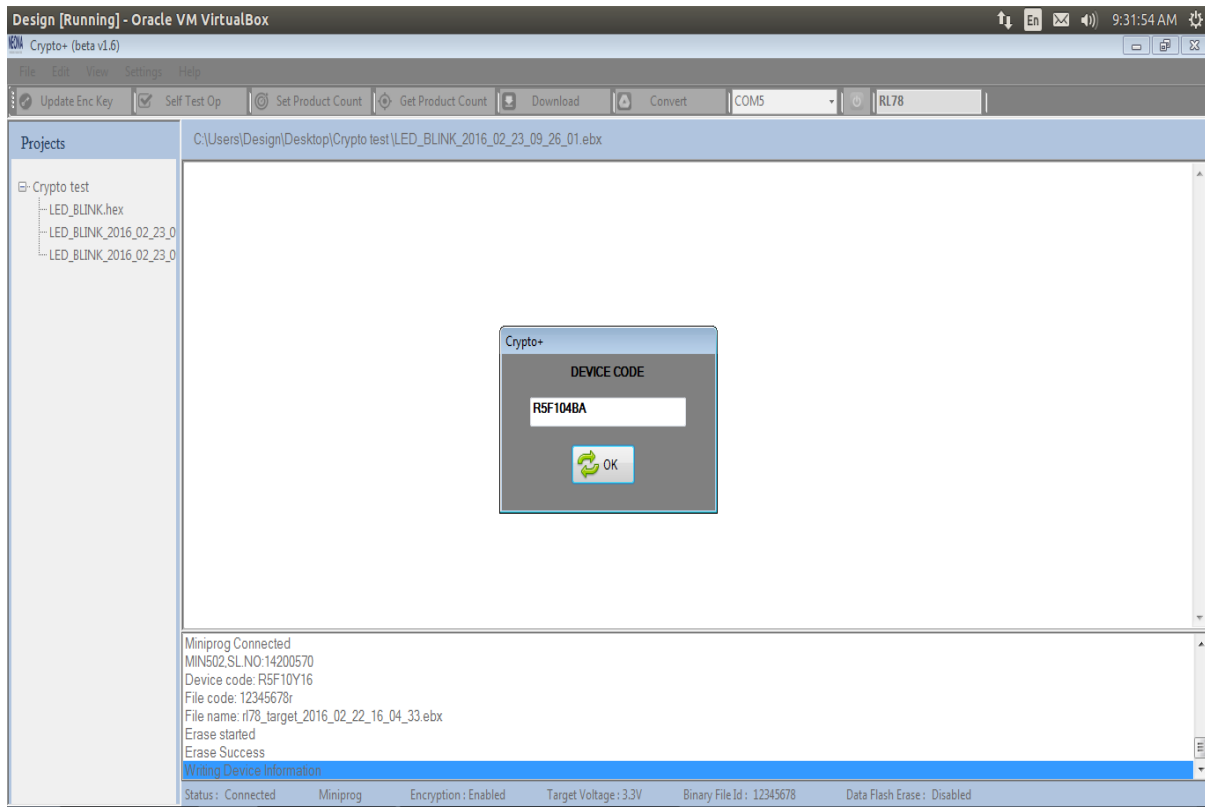
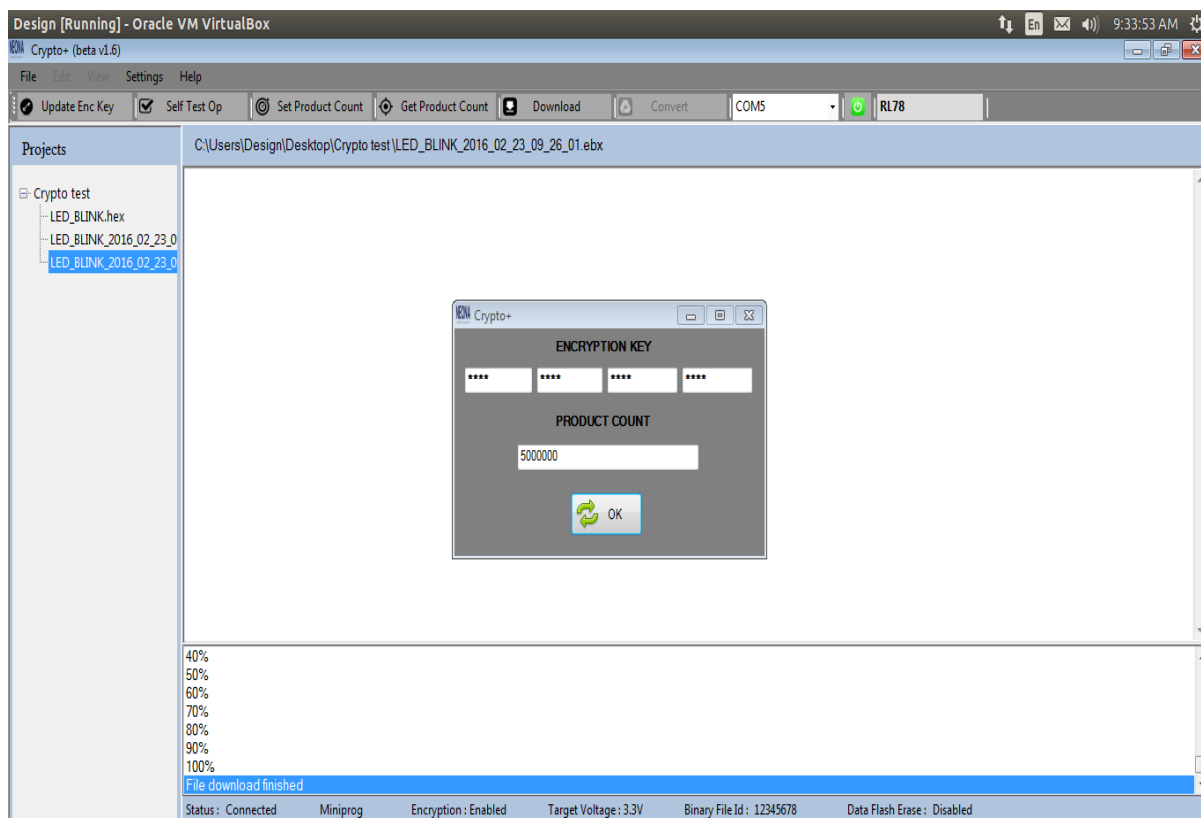

Figure 2.33
Figure 2.34
STEP 2: Enter the device part number as shown in figure 2.33 & Click **OK**. A message ‘**File download finished**’ will appear in the text view and a window to set the product count will appear as shown in figure 2.34.